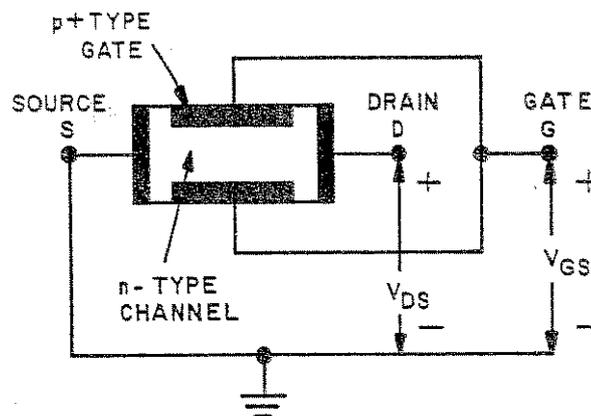
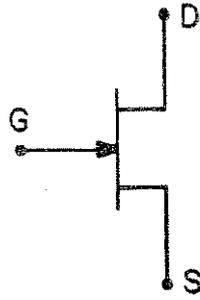

Figure 4-24. The Basic Structure of an N-Channel Junction Field Effect Transistor.
Figure 4-25. Circuit Symbol for an N-Channel JFET
The structure of an N-channel Junction Field Effect Transistor (JFET) is shown in Figure 4-24. Resistive contacts are made to the ends of a semiconductor bar of N-type material (if P-type material is used, the device is referred to as a P-channel JFET). The voltage supply connected to the ends causes current to flow along the length of the bar. This current is made up of majority carriers, which in this case are electrons. The circuit symbol is shown in Figure 4-25. The following FET notation is standard.
GATE: On both sides of the N-type bar shown in Figure 4-24, heavily doped (P+) sections of acceptor impurities have been created by alloying, by diffusion, or by some other means of creating P-N junctions. These sections of impurities are called the gate (G). The gate to source voltage (V_{GS}) is applied to reverse bias the P-N junction. The current entering the bar is designated I_g .